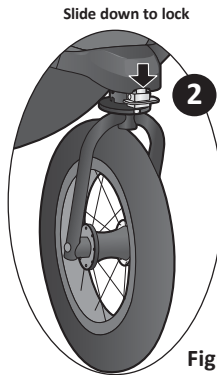

Figure 4.16
- 2 **Engage Front Swivel Lock:** With the wheel straight, push tab down until it “clicks” to keep front wheel from swiveling. **Figure 4.16**